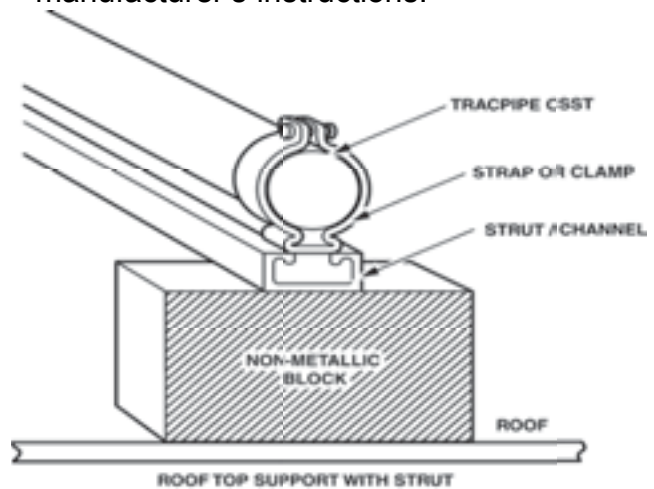

Figure 4-18
3. **TracPipe**® may be supported with strut/channel running from block to block beneath the flexible gas pipe. Galvanized shallow channel (13/16 inch) with splice plates at joints and bends provides a secure, damage resistant “track”. With metallic strut support, blocks can be reduced to every 8 feet. The **TracPipe**® should be firmly attached to each block with metallic clamps designed for the strut or appropriate fastening mechanism. (See Figure: 4-18). Black cable ties (UV resistant) at intermediate points facilitate rolling out the **TracPipe**®. The blocks are to be attached to the roof surface in accordance with the roofing manufacturer’s instructions.